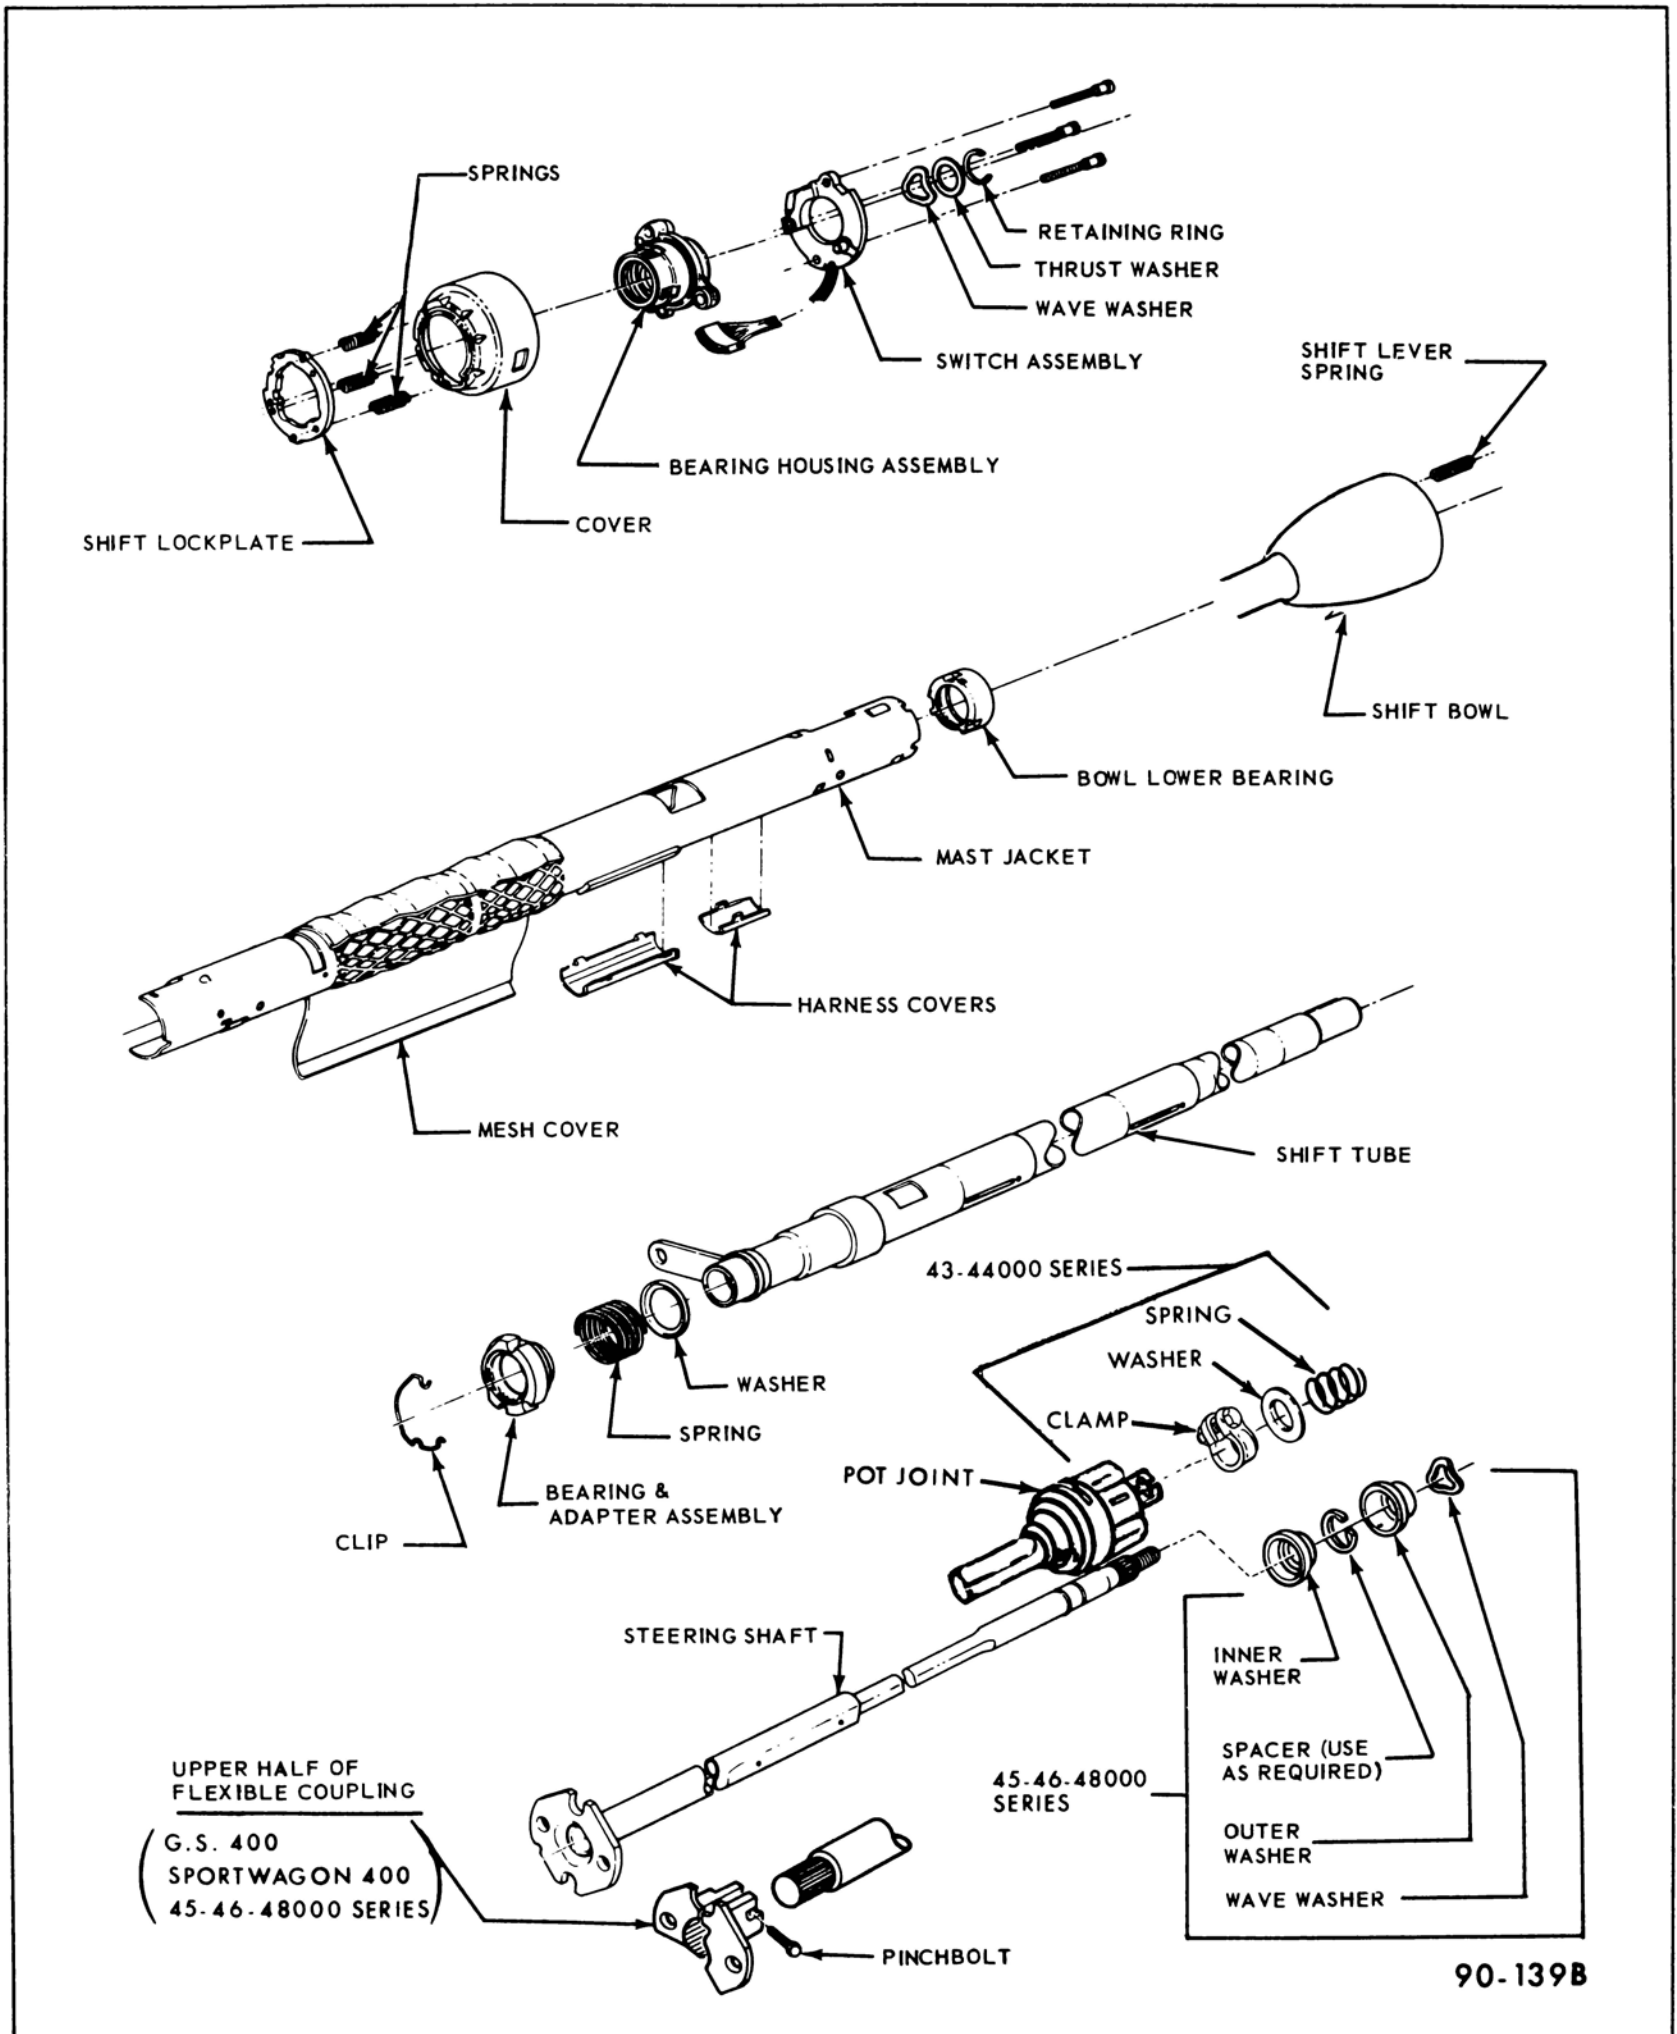

Figure 90-93 Standard (Non-tilt) Steering Column Assembly
4. On only 45-46-48000 Series cars disassemble inner washer, "C" ring spacer(s), outer washer and wave washer from lower portion of steering shaft (see Figure 90-93).
7. On all columns except those used with 3-speed manual transmissions remove wire retainer securing plastic bearing and adapter assembly to lower end of steering column, and remove bearing and adapter assembly, spring and washer (if used). See Figure 90-93. Withdraw shift tube from column.